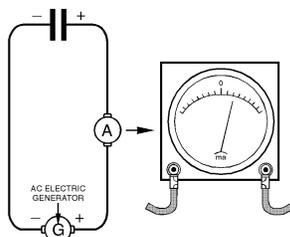

FIG. 2 CAPACITOR CONTAINING A DIELECTRIC MATERIAL WITH A LOW DIELECTRIC CONSTANT (AIR)
- (14) The capacitor is represented by a chamber separated into two equal sections by an elastic diaphragm representing the dielectric.
- (15) These chambers are connected to a centrifugal pump by pipes. The pump represents the generator in an electrical circuit.
- (16) When the pump rotates, it forces fluid into the chamber and causes the diaphragm to stretch.
- (17) Fluid on the opposite side of the diaphragm flows out of the chamber towards the pump.
- (18) One of the chambers contains more fluid than the other. The diaphragm being stretched maintains a pressure differential between the chambers.
- (19) When the diaphragm pressure is equal to the pump pressure, the fluid stops flowing.
- (20) If the pump is stopped, diaphragm pressure causes the fluid to flow in the opposite direction until system pressure is equalized.
- (21) If the centrifugal hydraulic pump is reversed, the system operates the same, but in a reciprocal manner. (figures 2 and 4)
- (22) By continuously reversing the direction of the hydraulic pump an alternating action in the fluid results. This is analogous to an AC generator.
- (b) Figure 2 shows a capacitor containing a dielectric material with a low dielectric constant. Few electrons can build on the capacitor plates. This results in a relatively low current.